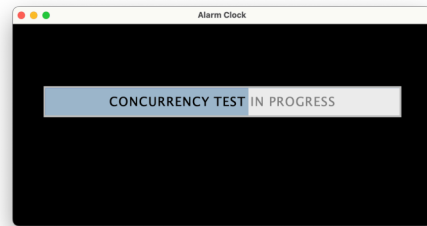

Figure 1.3: Emulator in test mode.
- I5. The emulator also includes a test mode (figure 1.3), designed to detect a particular type of race condition. In this mode, the emulator generates time changes (UserInput objects) at a high rate, quickly alternating between 00:00:00 and 12:34:56. The test is started by pressing 'T' and runs for 30 seconds.